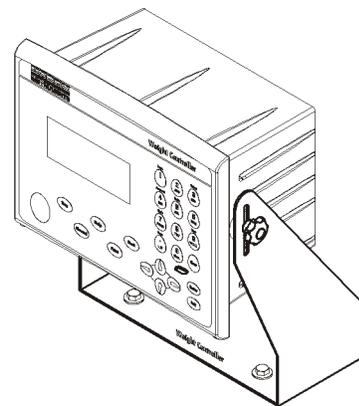

FIG. 4 WEIGHT CONTROLLER INSTALLING IN A SWIVEL MOUNT
- Step 2. Place the Weight Controller between the Swivel Mount brackets so that the threaded holes in the instrument are aligned with the slots in the Swivel bracket. (See Fig.4)